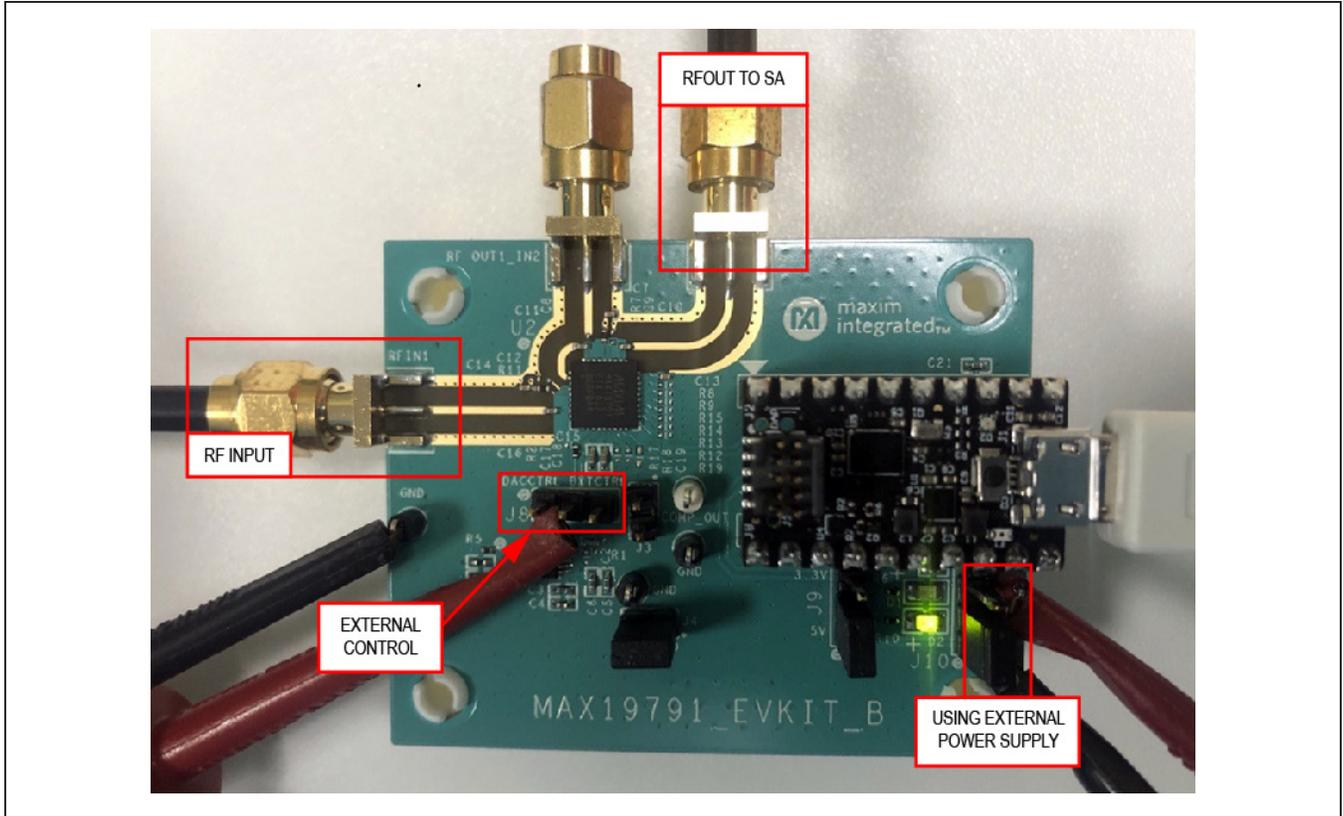

Figure 1. Connection Setup for Using External Power Supply and External Control Voltage
- If using an external power supply to provide the RF attenuation control voltage, remove jumper (if connected) from J8 and apply external control voltage at pin-2 of J8. Set the gain control voltage to 4V, but leave the control supply powered off for now. See Figure 1.
- To use an external DC voltage source, remove jumper J8, and connect a voltage source to pin 2 of J8, as shown in Figure 1.